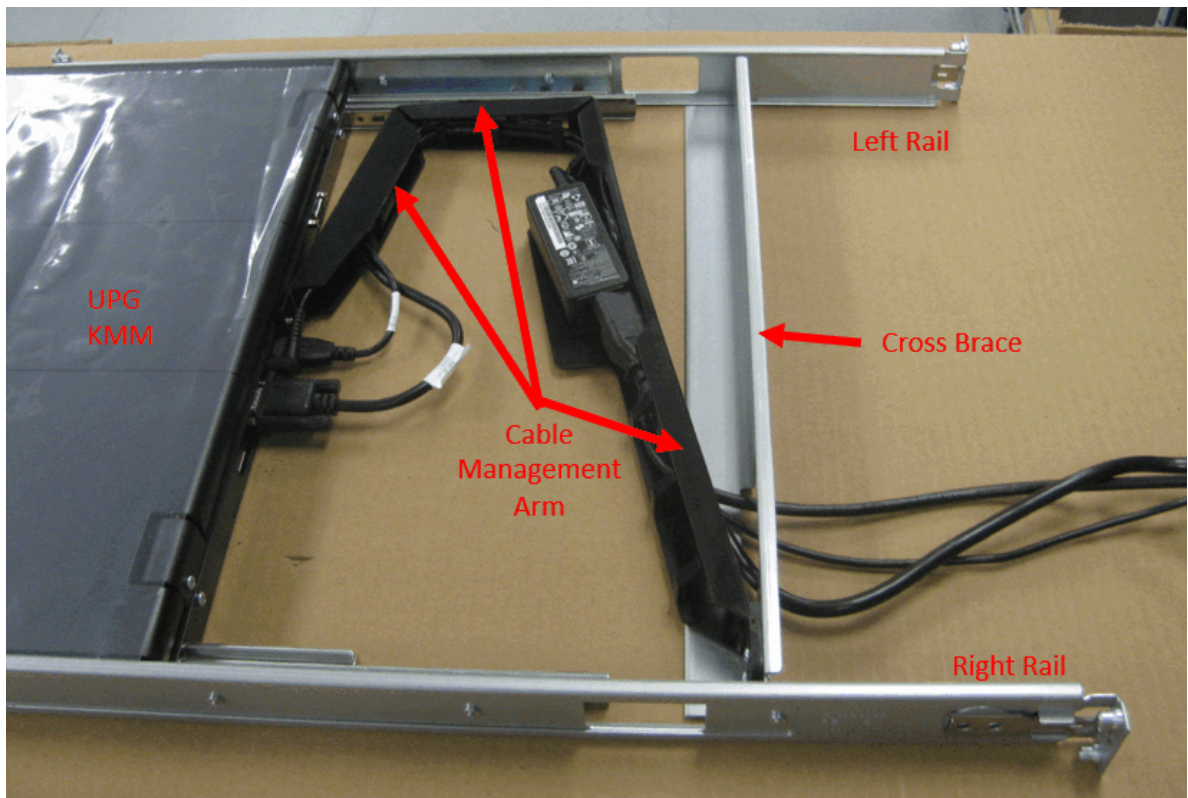

Figure 11. KMM rail assembly with cable management arm, cross brace, and cables installed
- \_\_\_ 9. Before continuing to the next step, refer to Figure 11 on page 106, which shows the KMM rail assembly with the cable management arm, cross brace, and cables installed. Use this figure as a reference as you complete the KMM and rail assembly installation (step “10” on page 106 through step “13” on page 106).